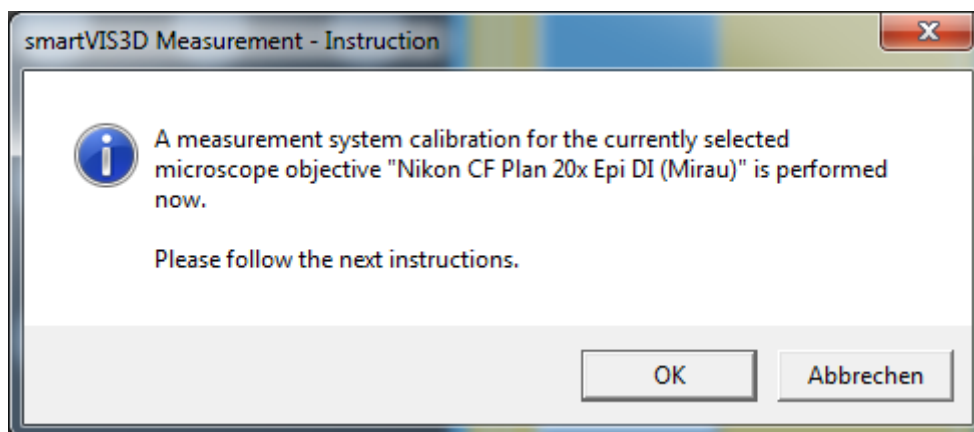

FIGURE 28: FIRST INSTRUCTION DIALOG OF THE CALIBRATION PROCEDURE
5. In the first instruction dialog, see Figure 28, the selected objective and the magnification factor are shown. Verify that these correspond to the settings in the "Measuring Option" menu. If not cancel the calibration procedure by clicking on the "Cancel" button. If the settings are correct confirm that by clicking on the "OK" button